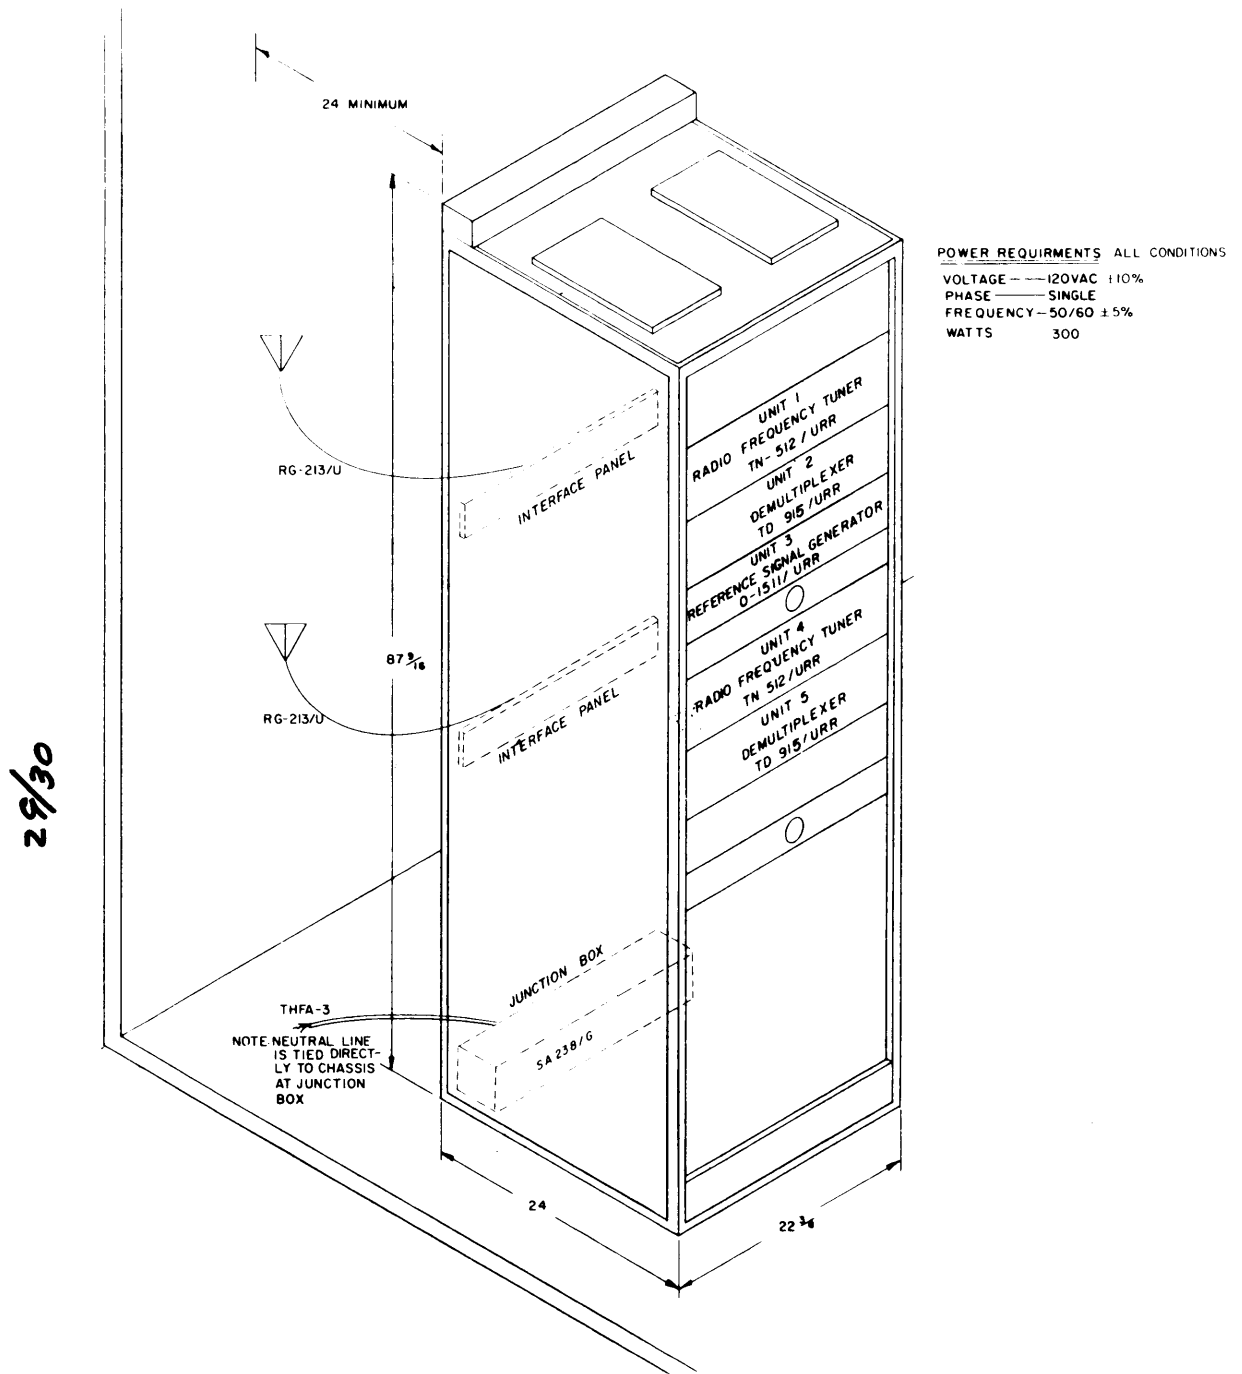

Figure 2-3. Pictorial System Diagram, AN/URR-64(V)3
a. ASSEMBLY OF RECEIVING SET. - Install modular units and blank panels into the rack as shown in figure 2-1 for the AN/URR-64(V)1, figure 2-2 for the AN/URR-64(V)2 and figure 2-3 for AN/URR-64(V)3. Connect modular unit interconnecting cabling within the rack as shown in figure 5-1 for the AN/URR-64(V)1, figure 5-2 for the AN/URR-64(V)2, and figure 5-3 for AN/URR-64(V)3. Refer to tables 2-1 through 2-3 for summary list of installation materials for AN/URR-64(V)1 through (V)3 respectively.